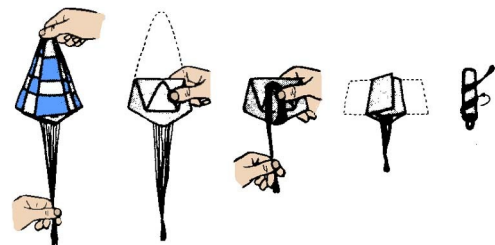

Figure 8
- **Step 19** The illustrations in Fig. 8 show the correct way to fold the parachute. Do this only when you are ready to fly -- never store the parachute in the rocket between flight sessions. In colder climates, and during winter, you will often find it helpful to dust the parachute with talcum powder to prevent the plastic from sticking to itself.